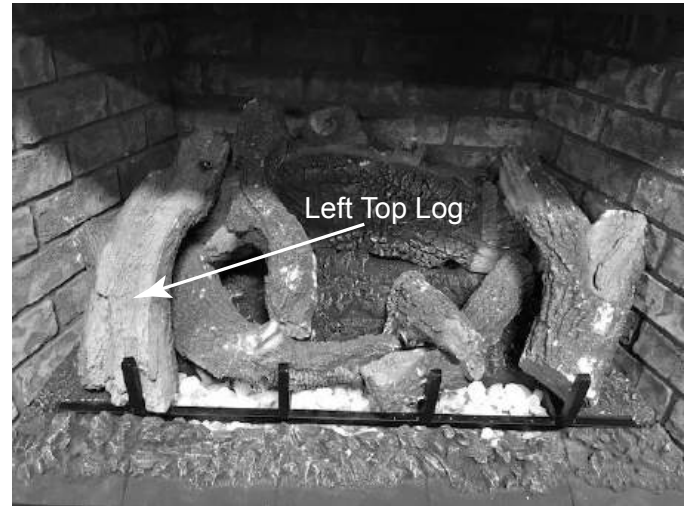

Figure 11.20
- Locate the left top log by placing the notch on bottom of log on to the locating point on top of rear log. Front of log will fit around left grate bar. See Figure 11.20.